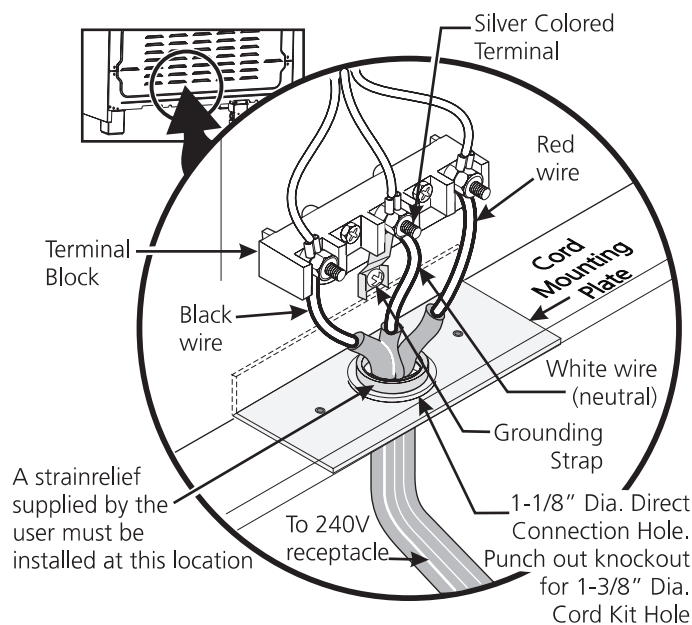

Figure 9
If local codes permit connection of the frame grounding conductor to the neutral wire of the power supply cord (Figure 9):
4. Replace the 3 nuts on the terminal block (Figure 9).